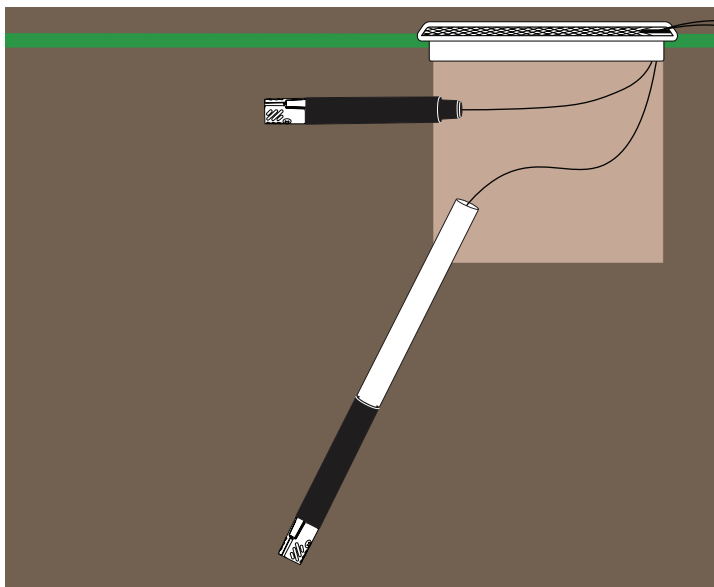

Figure 7 Horizontal installation in trench
When installing horizontally, this will match the measurement depth (Figure 7).
5. Fill the trench or install an irrigation valve box to house the sensor cable (Figure 7).